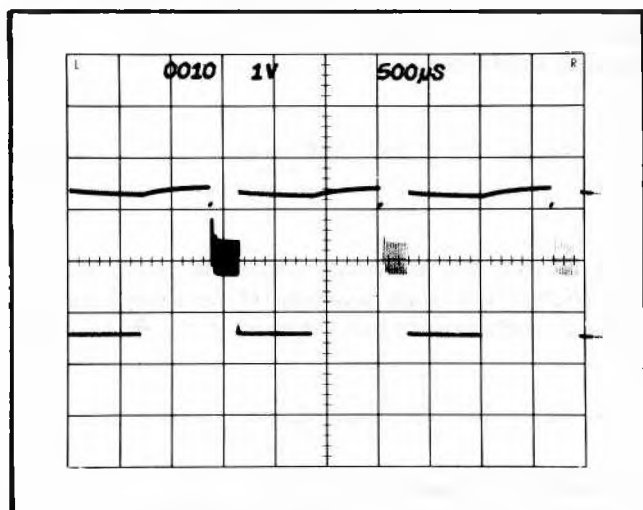

Fig. 2-7. Counting the number of pulses within a burst.
8. Set the delaying time-base unit Time/Div control to view several cycles of the input-signal waveform as shown in Fig. 2-7.
9. Set the delaying time-base unit Delay Time Mult and the delayed time-base Variable Time/Div controls to intensify the pulses to be counted (see Fig. 2-7).